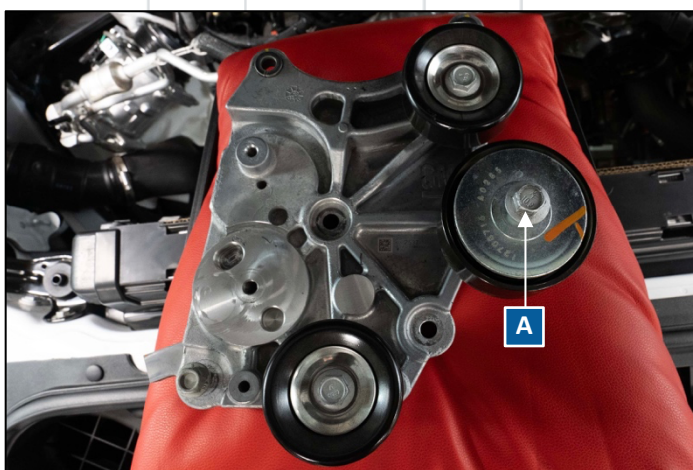

Figure 12: Accessory Bracket Removed for Reference
**16. Remove right center pulley, 15mm hex head bolt (labeled as A in Figure 12).**